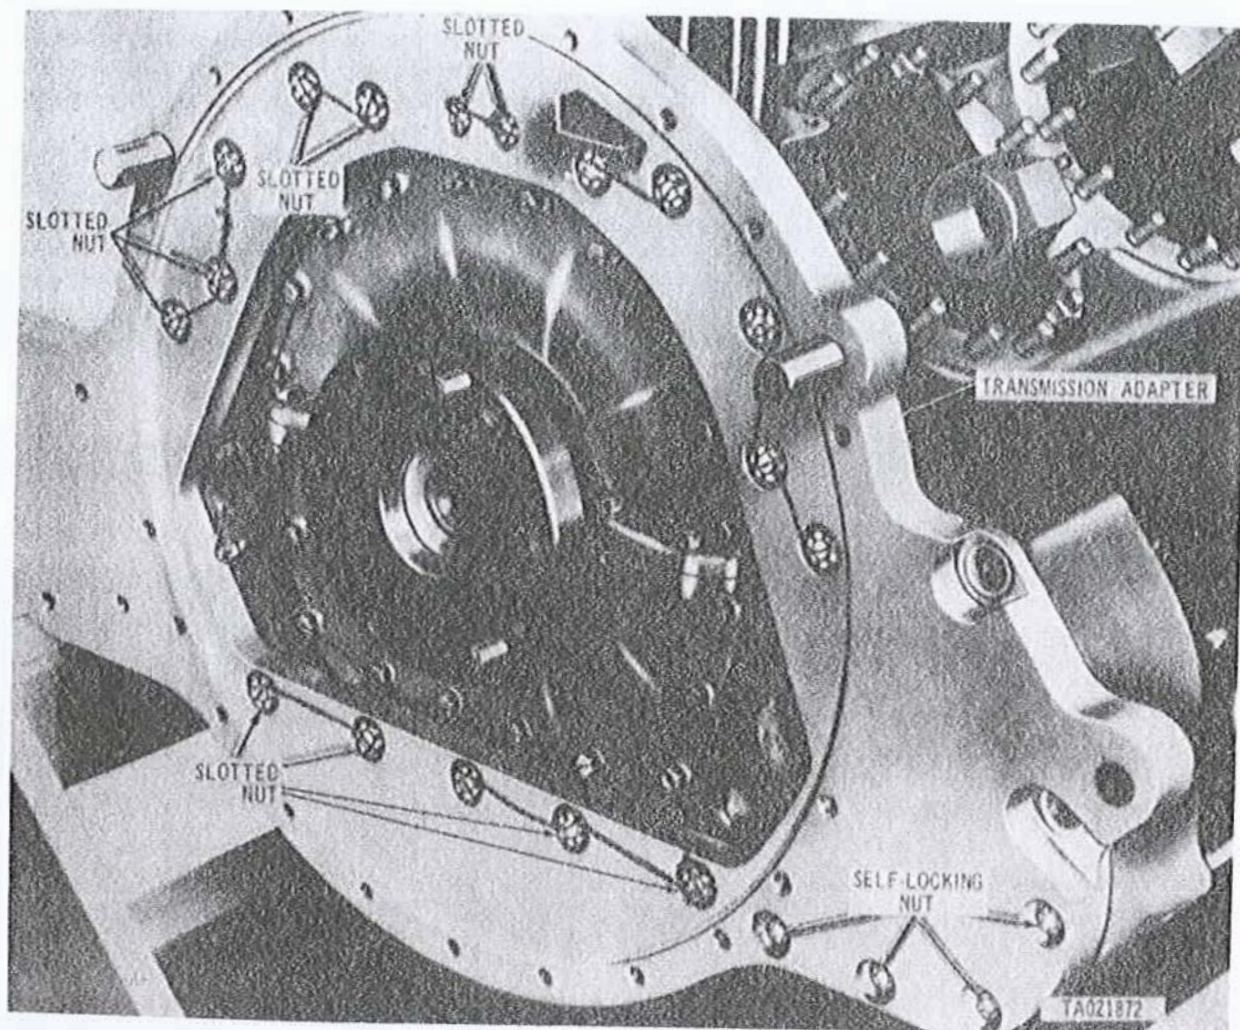
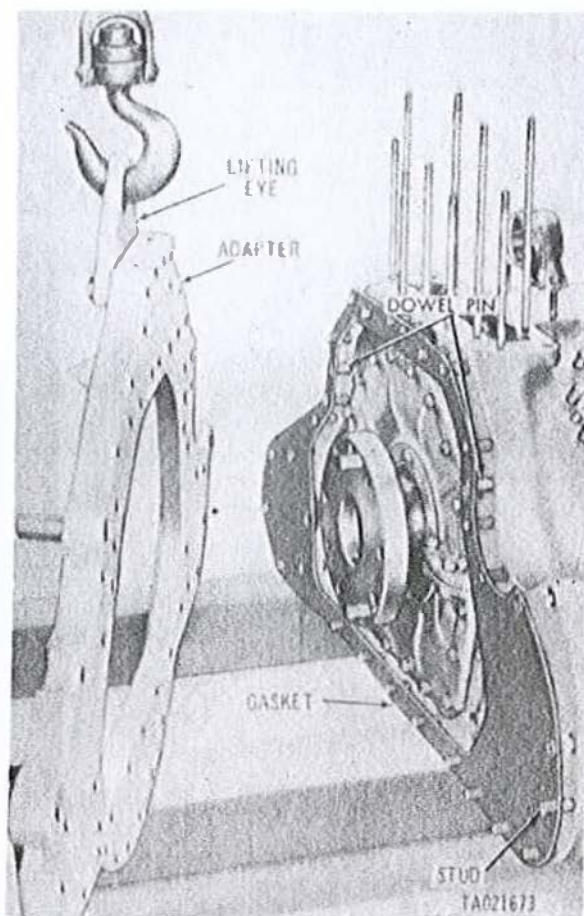

Figure 3-119. Removing or installing transmission adapter attaching parts.
Figure 3-120. Removing or installing transmission adapter.
d. Cut locking wire and remove two slotted nuts (fig. 3-119) at top of adapter, and fifteen slotted nuts securing transmission adapter to the crankcase. Remove four self-locking nuts. Attach a suitable chain hoist in transmission adapter lifting eye (fig. 3-120) and separate adapter from studs, dowel pins and crankcase assembly. Remove adapter and remove and discard gasket.